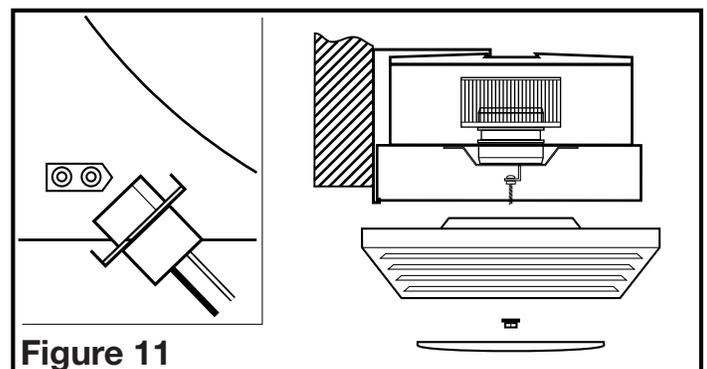

Figure 11
3. After the reflector bolt is secure, raise the grill/reflector up into position and plug the reflector into the appropriate receptacle. Secure the assembly to the reflector bolt using the acorn nut and lock washer. Install the included 26 watt fluorescent lamp into the lamp holder by lining up the pins on the lamp base to the socket of the lamp holder and pressing towards the lamp holder until the lamp snaps into place and is firmly seated in the lamp holder (**Figure 11**).
4. Reinstall the lens into the grill (**Figure 11**).